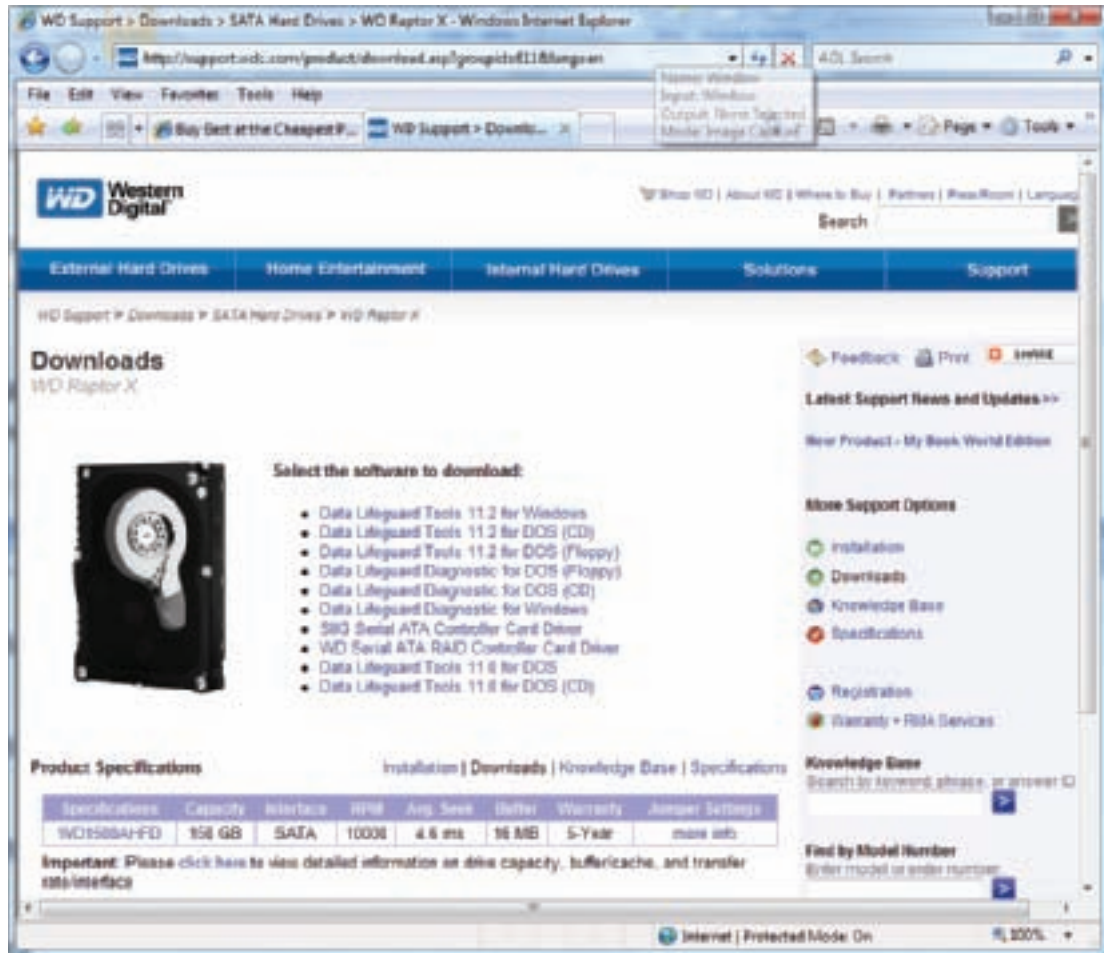

Figure 8-57 Download hard drive diagnostic software from the drive manufacturer's Web site
- ▲ *Hard drive manufacturer's diagnostic software* is available for download from the Web sites of many hard drive manufacturers. For example, you can download Data Lifeguard Diagnostic for DOS from the Western Digital Web site (*www.wdc.com*), burn the software to CD, and boot from the CD (see Figure 8-57). Using the software, you can do a quick test to check Western Digital drives for physical problems or an extended test to repair any correctable problems. You can also write zeros to every sector on the drive to get a fresh start with the drive. There's also a Windows version that can be used to test a second hard drive in your system. Another similar program is SeaTools by Seagate